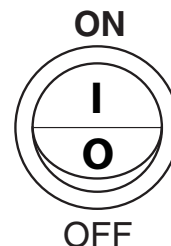

Fig. 33-2
2. Locate the ON/OFF switch at the front of the switch box. Press the switch to the **ON (I)** position. See Fig. 33-2.